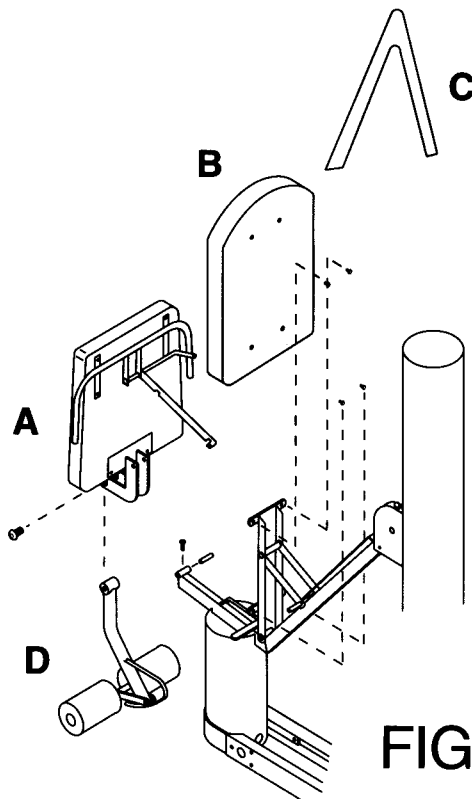

FIG. 3
6. Install leg/ab seat bottom assembly (A) to column. (1/2" rod and 1/4-20 x 1/2 screw) (Fig. 3)
Attach the leg developer (D) to the seat bottom assembly. (1/2-13 x 1 button head screw, Qty: 2). (Fig 3)